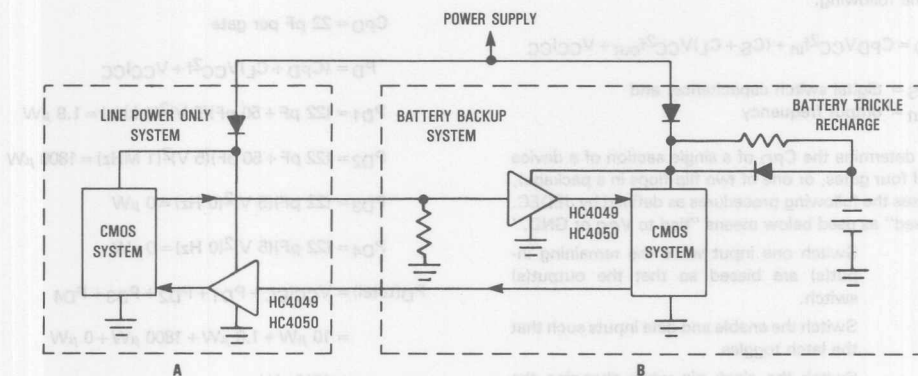

Figure 8. Battery Backup Interface
2. Inputs that might go above the battery backup voltage should use the HC4049 or HC4050 buffers (Figure 8). If line power is interrupted, CMOS System A and Buffer A lose power. However, CMOS System B and Buffer B remain active due to the battery backup. Buffer A protects System A from System B by blocking active inputs while the circuit is not powered up. Also, if the power supply voltage drops below the battery voltage, Buffer A acts as a level translator for the outputs from System B. Buffer B acts to protect System B from any overvoltages which might exist. Both buffers may be replaced with current-limiting resistors, however power consumption is increased and propagation delays are lengthened.